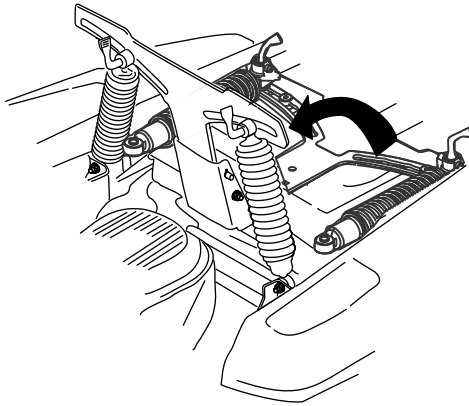

Figure 1
2. Rotate the suspension up (Figure 1).